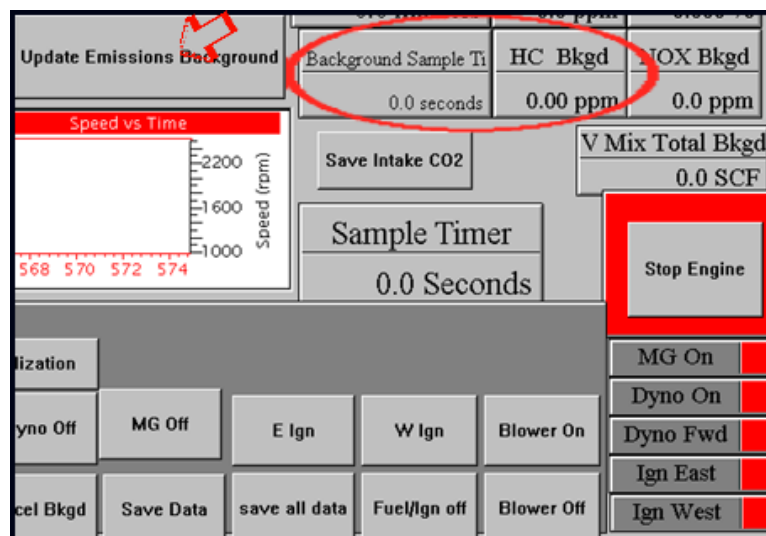

Figure 17
- 124 In the control room, select the "Update Emissions Background" button on the "PNGV Run Screen." See the arrow in Figure 17. The "Background Sample Timer" will automatically start and run for 5 minutes. When the sample time returns to zero, the background level will appear in the "HC Bkgd" field. See the circle in Figure 17.